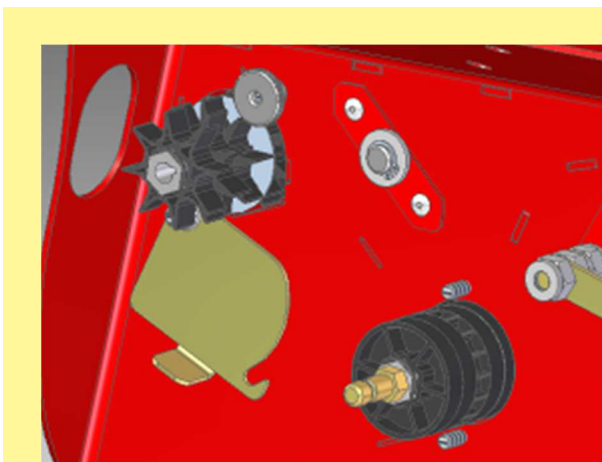

Figure 31
- Now the new seeding shaft can be installed in the implement (Figure 31).